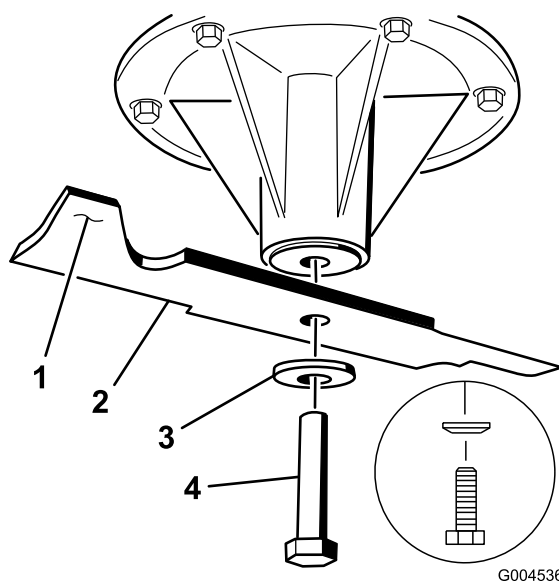

Figure 58
2. For 48 inch mower decks, remove the blade bolt, curved washer, and blade from the spindle shaft (Figure 58).
1. Install the blade onto the spindle shaft (Figure 58).
Important: The sail part of the blade must be pointing upward, toward the inside of the mower to ensure proper cutting (Figure 58).
2. For 48 inch mower decks, install the blade, curved washer, and blade bolt (Figure 58).
Note: If the blade is not balanced, file some metal off the end of the sail area only (Figure 58).